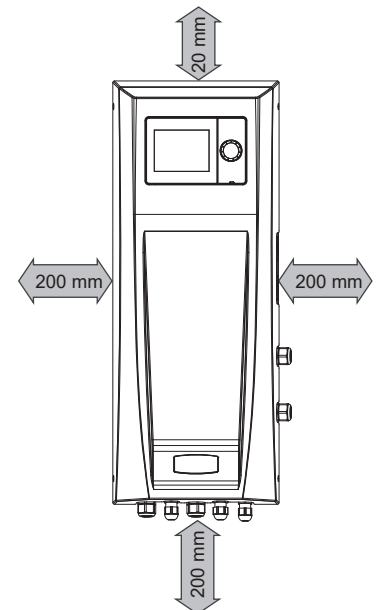

Figure 15. Control Box - Clearances
**⚠ CAUTION:** Do not obstruct the product by any surrounding objects or surfaces as this can limit access and adversely affect performance. The minimum clearances that are shown in *Figure 15* should be always maintained.
**① IMPORTANT:** Front clearance can be reduced to 5mm (e.g. cupboard installation) but must maintain 900 mm serviceable access.